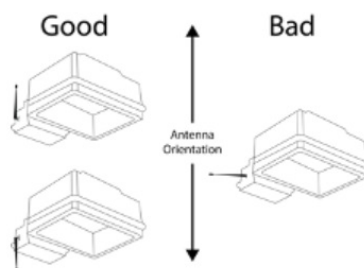

Figure 2
- Orient antenna direction pointing straight up or straight down for maximum RF connectivity. See Figure 2.